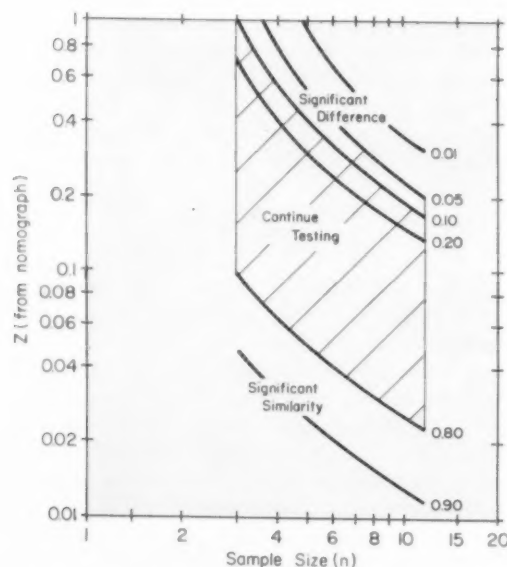

Fig. 2. Test for significance of difference in sample means. Use Z value from nomograph.
To eliminate the actual calculation of the t statistic and the reference to tables of the t distribution to determine significance, a nomograph, Fig. 1, and chart, Fig. 2, are used. The nomograph, designed by E. A. Jeffrey, gives the value of
4. Decide from Fig. 2 whether or not a decision can be reached with the available data. The calculated Z for the appropriate number of pairs of tests (sample size) is related to chance occurrence of Z on this figure. If the plotted value of Z falls above the 0.01, 0.05 or 0.20 confidence lines, we would expect to be wrong in deciding there is a significant difference in samples less than 10 percent of the time. Similar reasoning applies if Z falls above the 0.80 or 0.90 confidence lines respectively, we would expect to be correct at least 80 or 90 percent of the time in stating that the test items were the same. The central